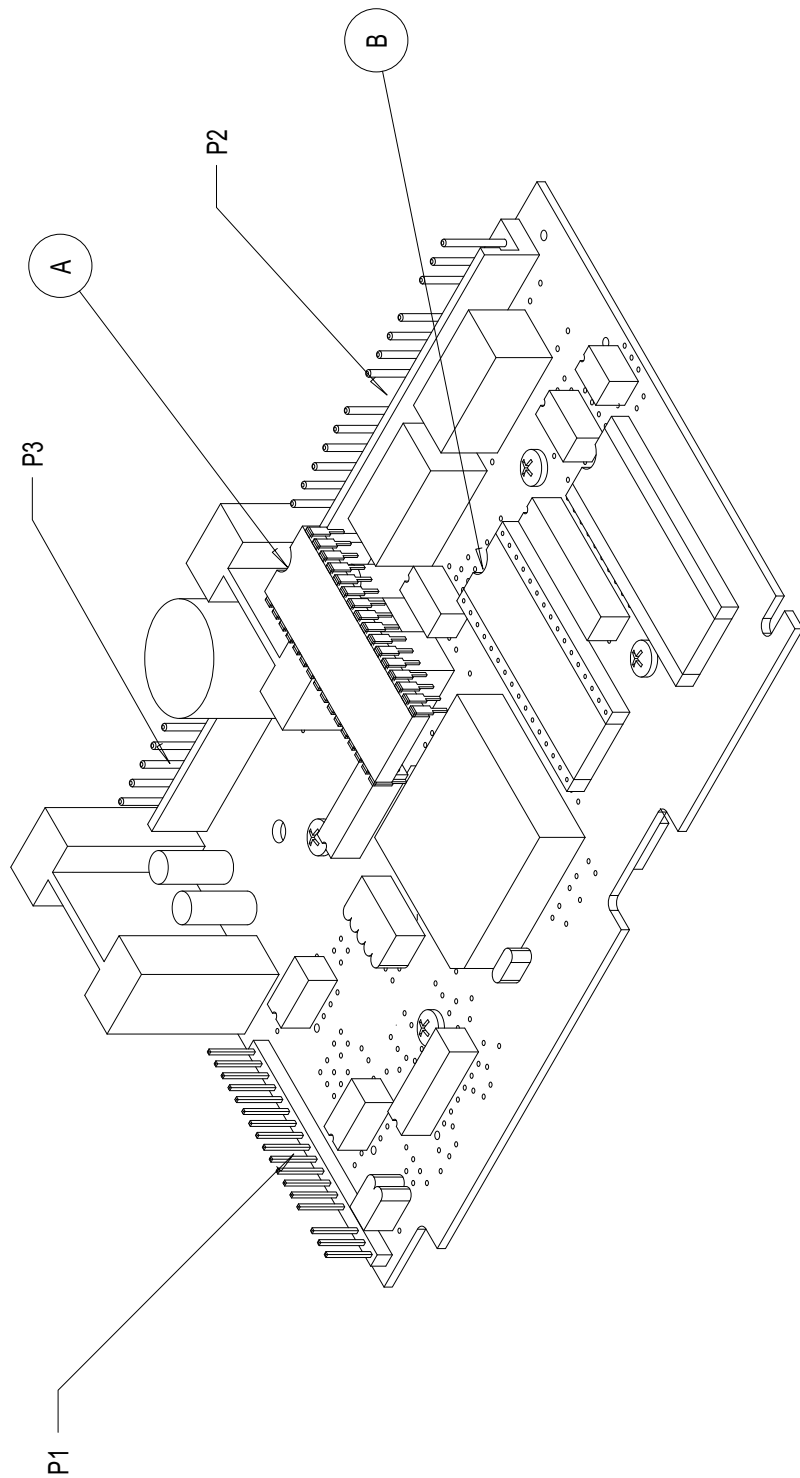

Figure 5
2. Locate the small notch at one end of the EPROM in Figure 5, A. Make sure it is lined up with the
notch of the socket outline at U1 on the circuit board, as shown in Figure 5, B. Also make sure that all the pins are started into the socket. Then press the EPROM firmly into the socket.
3. Inspect all 28 pins to be sure they are seated properly. Note that a pin can become bent under the EPROM and may appear as though it is correctly installed in the socket. If all the pins were not properly seated in the socket, remove the EPROM, straighten the pins with needle-nose pliers, and try again. Remember that the notched end must be as shown in Figure 5.